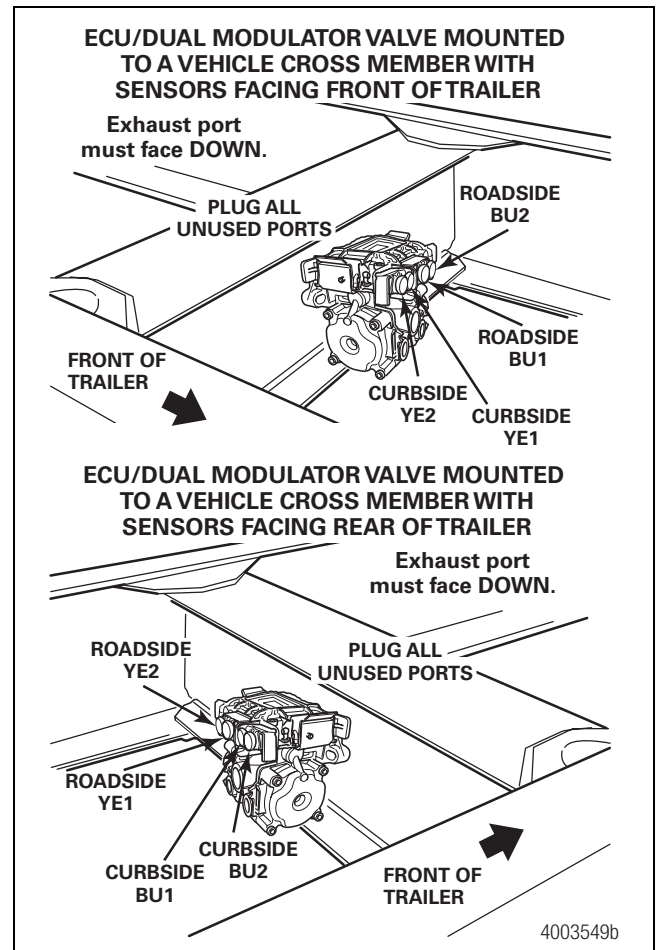

Figure 3
5. Use two 3/8-inch Grade 8 bolts with prevailing torque nuts and washers to attach the assembly to the vehicle cross member. Tighten the bolts to 18 lb-ft (24 N•m). Figure 3.